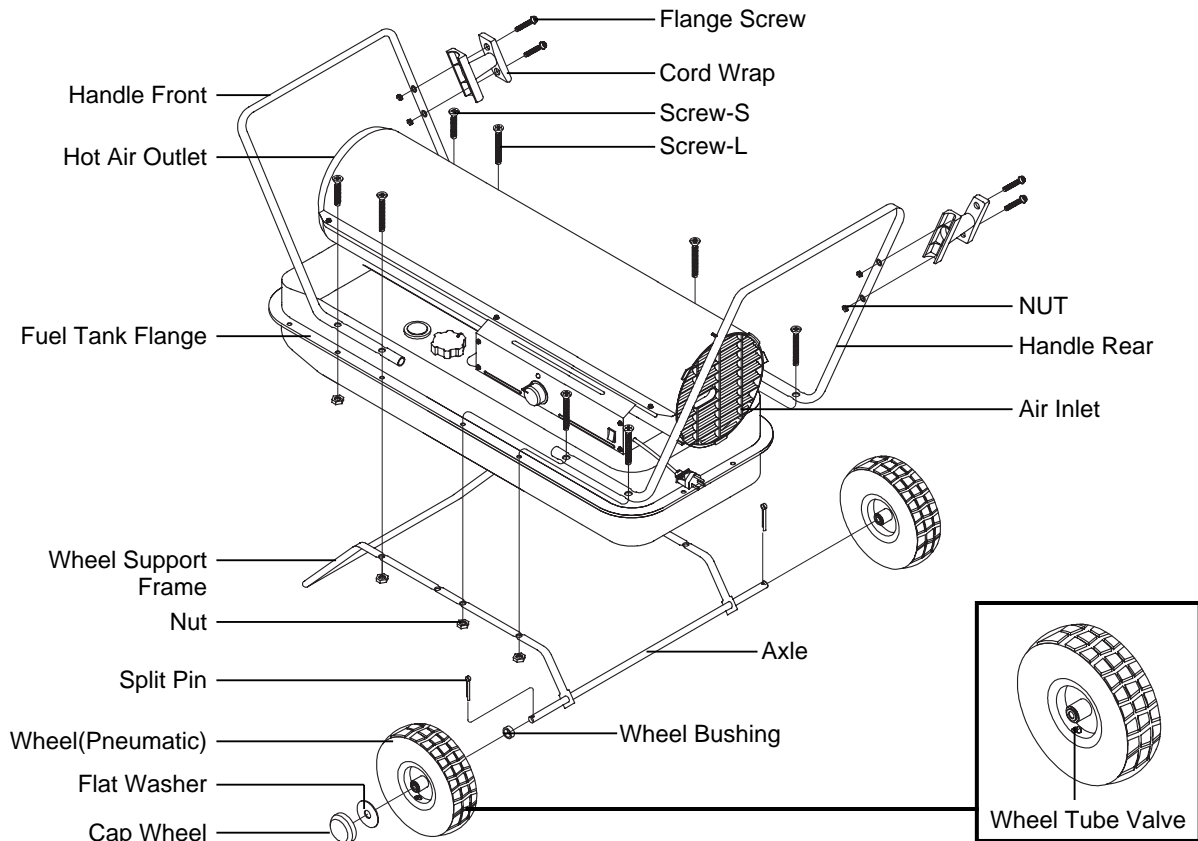

Figure 8. Wheel and Handle Assembly, DFA-170C / DFA-210C MODELS ONLY
NOTE : When installing wheels, tube valve should face out from support frame (See Figure 8).
Align the holes on fuel tank flange. Insert screws through handles (Front and Rear), fuel tank flange, and wheel support frame as shown in figure 8 and attach nut finger tight after screw is inserted.
- 1) Align the hole on the handle (Front and Rear) with the mounting hole on the cord wrap (See Figure 8)
- 2) Insert screws through cord wrap, handles (Front and Rear) as shown in Figure 8 and attach nut finger tight after each screw is inserted.